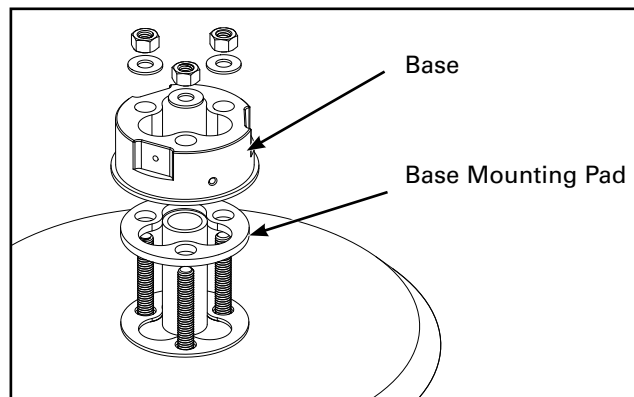

Figure 5.
1. Remove the top three nuts from the anchor bolts. (Figure 5.)